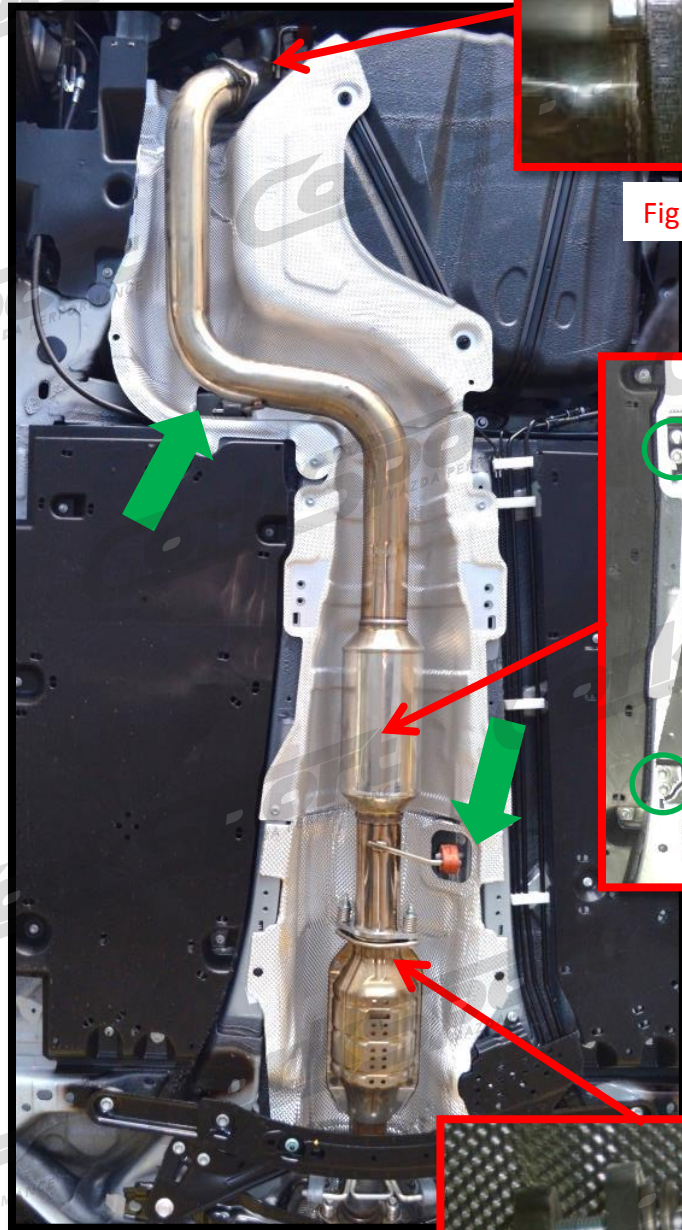

Figure 4a
- a) Place the mid-pipe section up into the car and attach it with the rubber hangers (green arrows in Figure 4a).
a) Place the mid-pipe section up into the car and attach it with the rubber hangers (green arrows in Figure 4a).